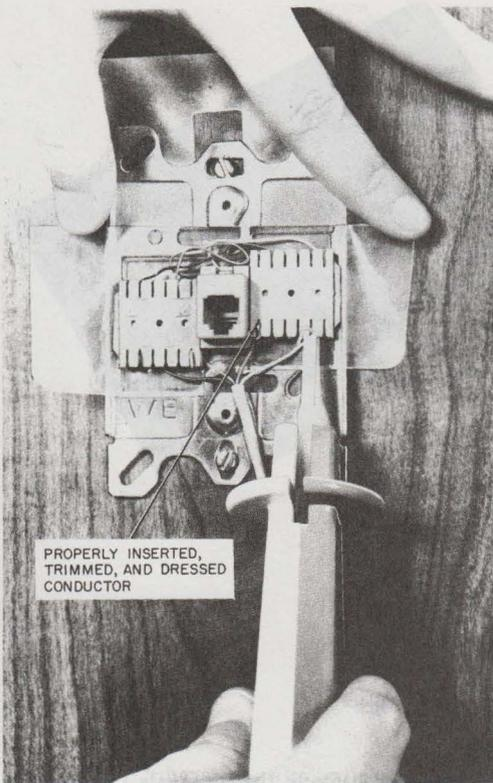

Fig. 9—Terminating Wire With Lead Insertion Tool in 630A4 Connecting Block
2.12 ♦The 797A or 8762D-630 insertion tool head is used for terminating conductors on the 630A4 connecting block. The 8762D insertion tool is adaptable to either the 714B tool handle or the AT-8762 D impact tool; the 797A tool is used with the 714B tool handle *only*. The construction of the blade tips is the same except the 8762D-630 is made of steel instead of plastic. Termination will be the same as shown in Fig. 9.♦
Note: 630A4 connecting blocks manufactured after March 1977 will be received from the factory with a plastic protective wrapper folded around the quick-connect terminals. To connect station wire, fold out the front and side flaps, make connections and dress leads (Fig. 9), then refold wrapper across terminals. This
- (1) Leave station wire conductors unstripped.
- (2) Dress the conductors so they will not be pinched or cross over each other.
- (3) Use the lead insertion tool to seat conductors in bottom of slots (Fig. 9). Do not twist or rock insertion tool and allow sufficient slack. Do not insert more than one conductor in each slot. Trim the terminated leads approximately 1/4 of an inch from the connecting surface and